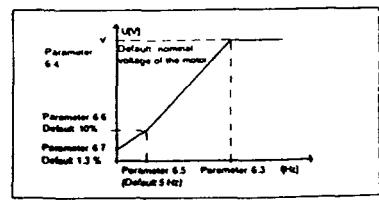

Figure 5.4-3 Programmable V/f curve
- Programmable 2 V/f curve The V/f curve can be programmed with three different points. The parameters for programming are explained in chapter 1.5.2. A programmable V/f curve can be used if the standard settings do not satisfy the needs of the application. See figure 5.4-3